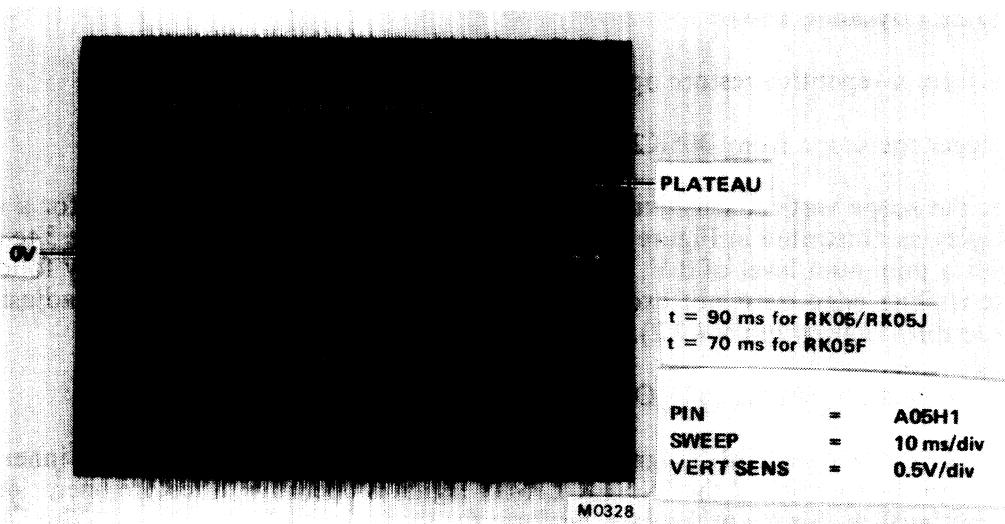

Figure 5-19 Full Stroke Waveform
- Observe A05H1 (VELOCITY) for a scope display as illustrated in Figure 5-19. The 0 V level of the profile must be reached in less than 90 ms from the start of the seek (70 ms for RK05-F).